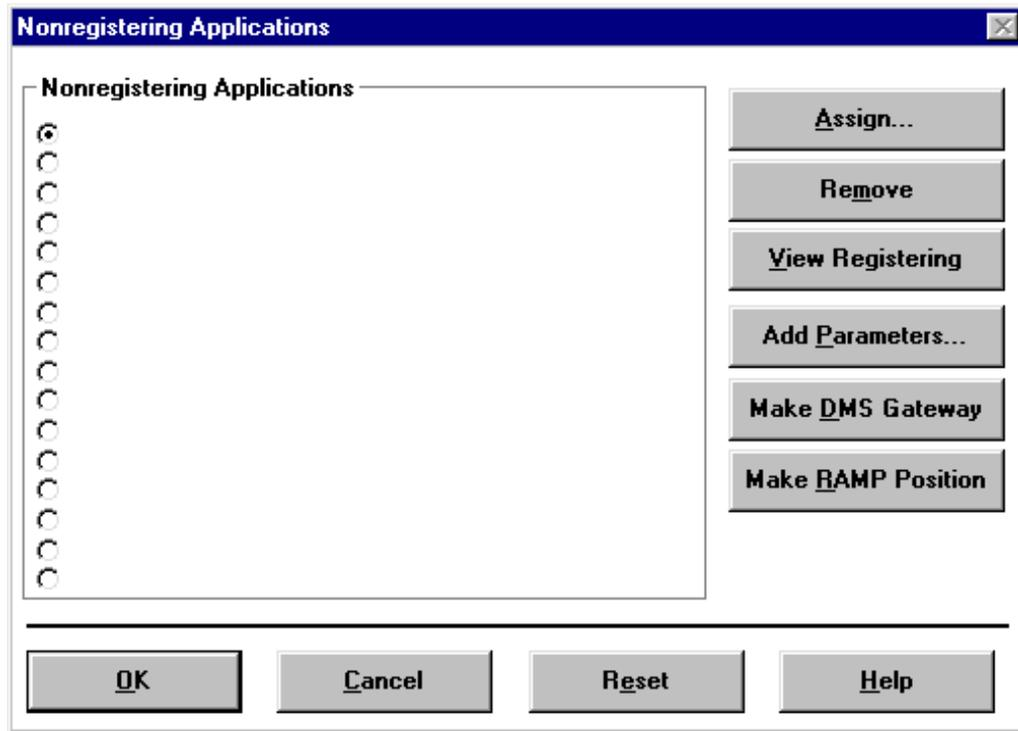

FIGURE 60. Example of nonregistering applications dialog box for TDM positions
1. In the configuration window, select Nonregistering. (See Figure 60.)
The view shown in Figure 60 on page 101 has 16 lines. Thus you can list 16 nonregistering applications for both the standard and extended versions of the IWS base. However, the standard version of IWS base supports five nonregistering applications, so even if you list 16, only the first five are supported.